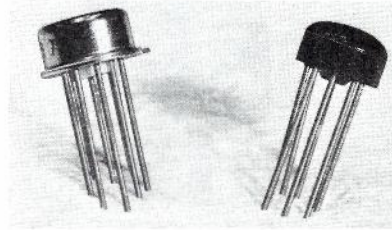

FIG. 41. TO 5 STYLE INTEGRATED CIRCUITS.
- **TO 5 STYLES.** Although generally known by the designation TO 5, the term only indicates shapes similar to that package. Actual case numbers (JEDEC scheme) include TO 76, TO 97, TO 100, etc. Fig. 41 show two typical shapes. This style of package is made with 8, 10, 12 or 14 leads.